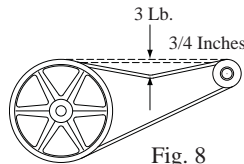

Fig. 8
- **Belt tension.** Loosen the motor mount bolts and slide the motor back until the belt is properly tensioned. A 3 lb. force should deflect the belt 3/4 inches (see Fig. 8). Retighten motor mount bolts. **Do not adjust pulley to tighten belt.**